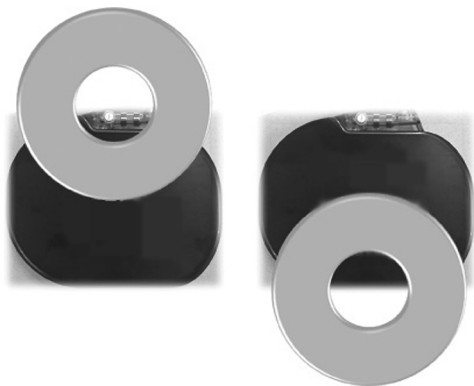

Figure 9. Starting Position of the Magnet for Suspension of Therapy
1. APPLY the magnet over the device header or over the lower edge of the device as illustrated in Figure 9 Starting Position of the Magnet for Suspension of Therapy on page 33.